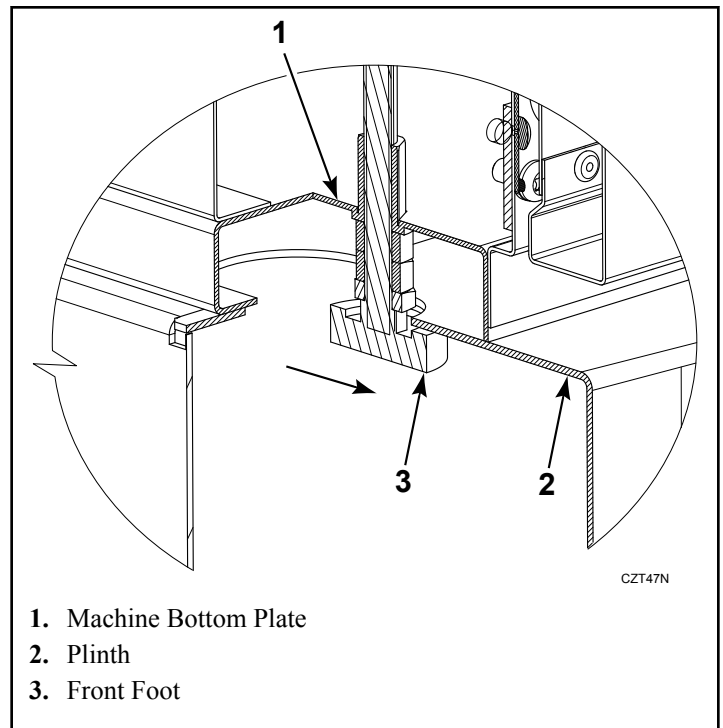

Figure 25
9. Then push the dryer forward in order to lock the front feet, refer to *Figure 25*.